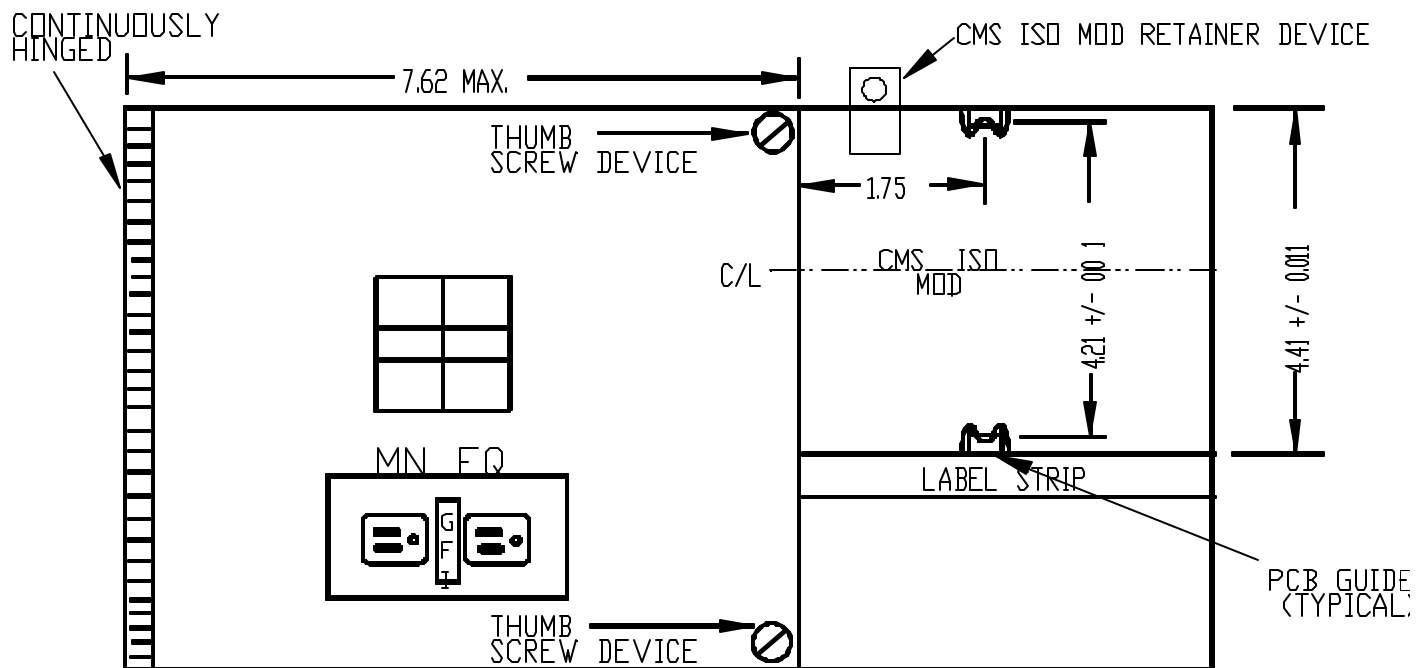

Fig. 49: PDA #4 Detail A.
- 5) Verify test switch/button and five indicators are installed on the front panel as shown in figure 49.